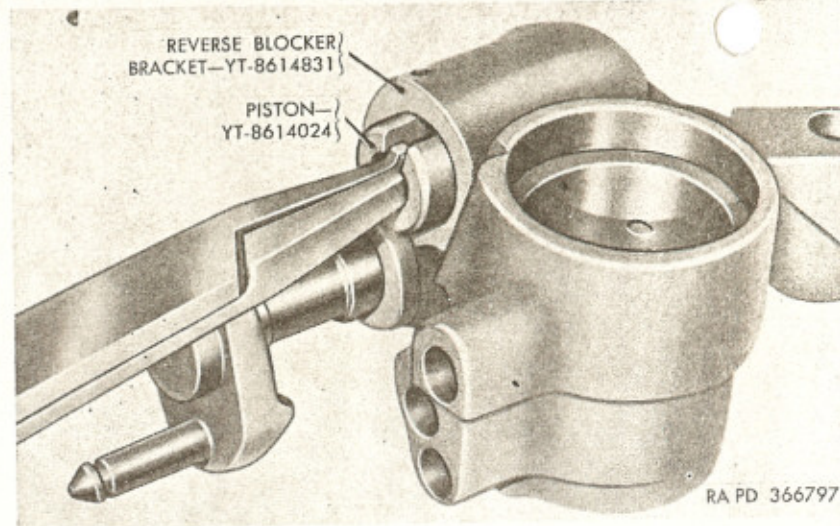

Figure 69. Removing piston from reverse blocker bracket.
a. Grind head off piston stop pin (H). While holding finger over piston spring (A), use long-nose pliers to remove pin from reverse blocker bracket (G).
b. Remove piston spring (A) and piston (B) from bore of reverse blocker bracket (G). Use snap ring pliers, if necessary, in manner shown in figure 69 to remove piston.